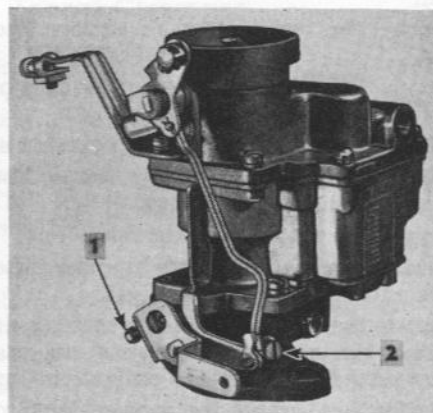

FIG. 53—CARBURETOR
10. Start the engine and allow it to run until operating temperature is reached. Set the engine idle speed with adjusting screw, No. 1, Fig. 53 to provide the standard idle of 600 rpm. Adjust low speed adjusting screw, No. 2, to provide smooth idle.